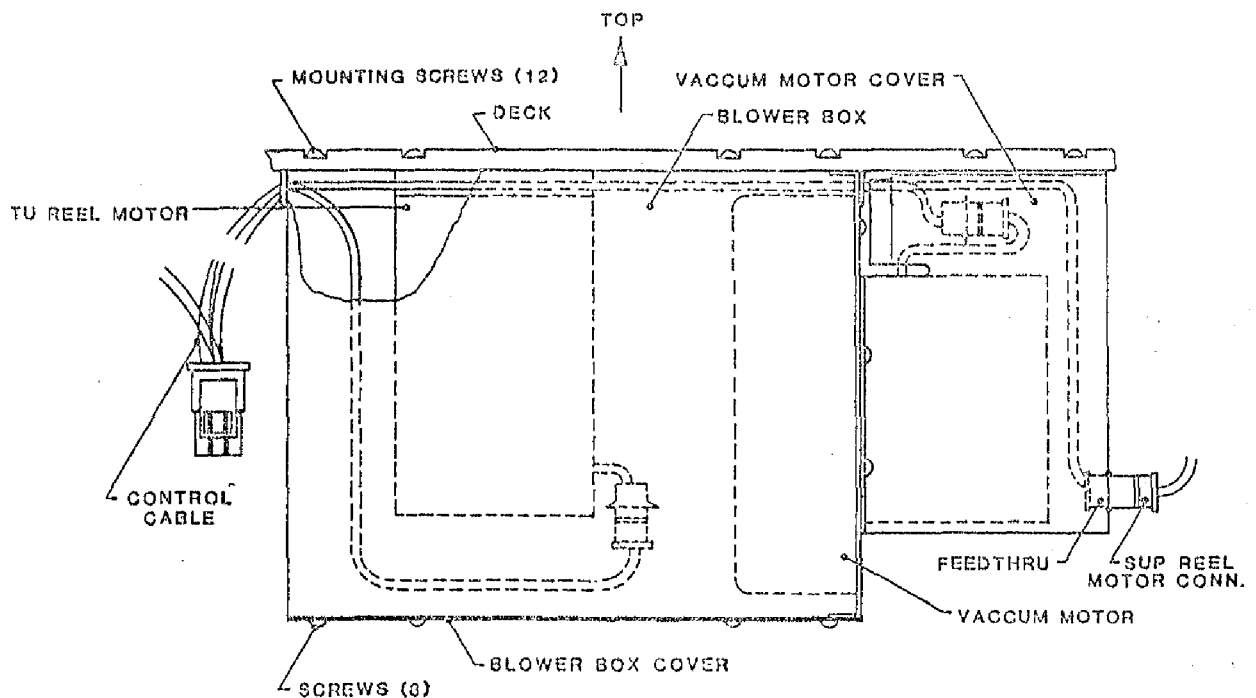

Figure 5-17. Blower Assembly
5.3.21 BLOWER ASSEMBLY (Fig. 5-17)